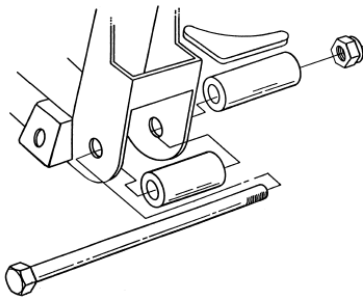

Figure 3- Crossmember Spacers Install
4. If you purchased a complete I.F.S. Package from *HEIDTS*, it was supplied with Full Lower A-Arms. Begin by installing the Spacers onto the crossmember. The holes where the lower control arms attach to the Crossmember must be enlarged to 5/8". Install the Crossmember Spacers and the Rear Spacers which were supplied with the Lower Control Arms onto the Crossmember as shown in **Figure 3** using the supplied Inner Bushing Bolts, Nuts and a temporary spacer under the Nuts. ***DO NOT*** use the A-Arms for this operation as the welding heat will melt the rubber bushings. Tighten the Bolts and Nuts tight. Weld the Rear Spacers to the Crossmember all around. Weld the Crossmember Spacers as far as possible inside the crossmember on both ends. Position the Gussets horizontally, not vertically, against the Rear Spacers and the back of the Crossmember. Weld Gussets to Spacers and Crossmember. When it cools, remove the bolt.